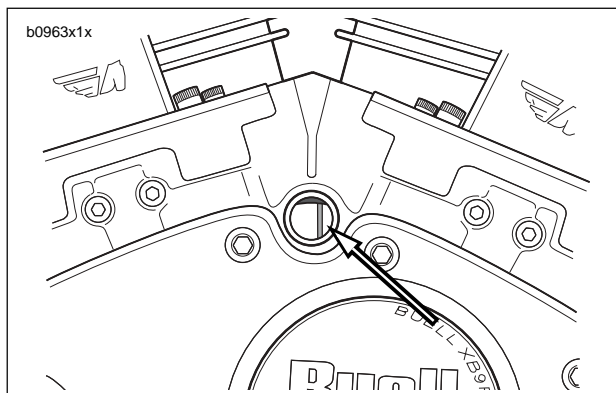

Figure 1-56. Retard Timing
2. See Figure 1-56. If timing is advanced (mark appears on left side of window) rotate timing plate counterclockwise.